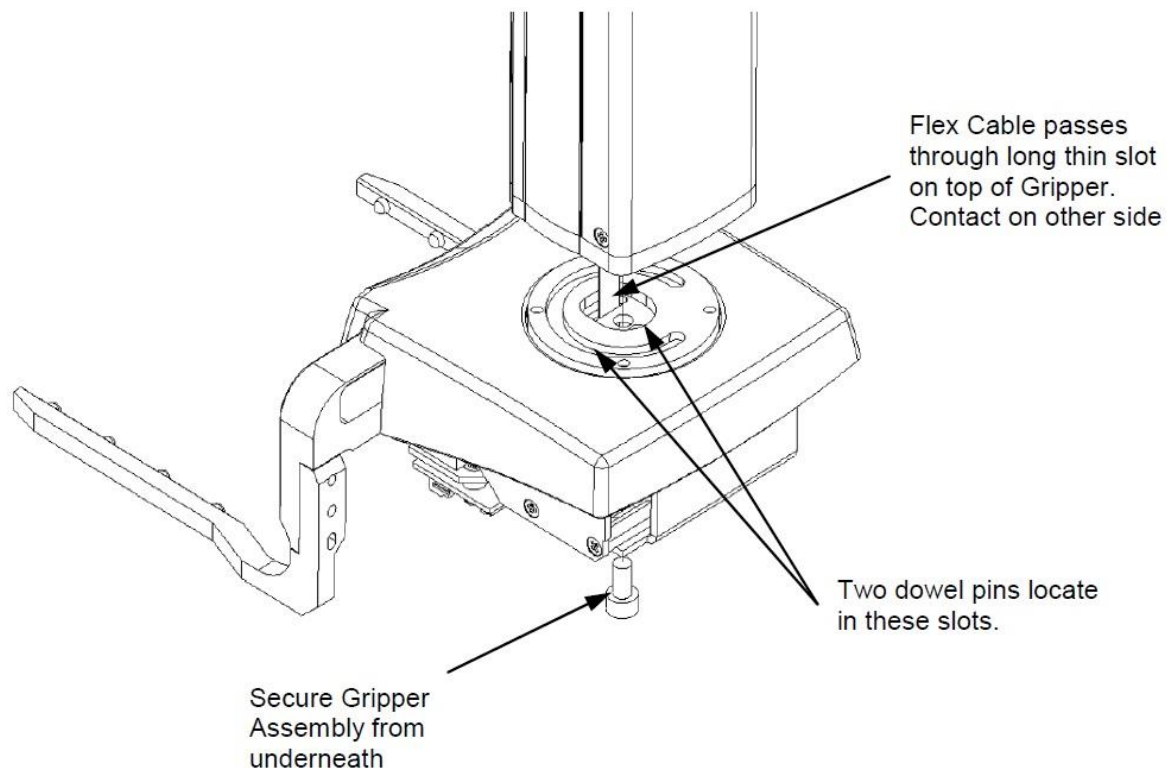

Figure H-4: Securing the Gripper- Position of Lower Dowel Pins
1. Place a Gripper Assembly onto the bottom of the Z Drive. The Flex Cable coming from the bottom of the Rotator should be oriented as shown in Figure H-4. In addition, ensure that the two dowel pins at the base of the Rotator are located into the slots in the top of the Gripper Assembly and secure using one M5x10 SCHS and Loctite 222 (Figure H-4 and H-5).